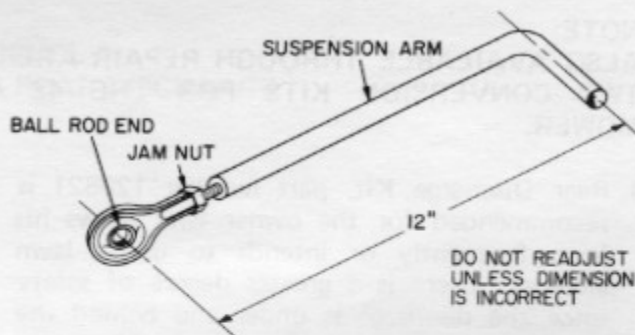

Figure 38
3. Set the suspension arms to 12" as shown in Fig. 38. This is only a starting point. Attach suspension arms to top deck at "A" Fig. 37.